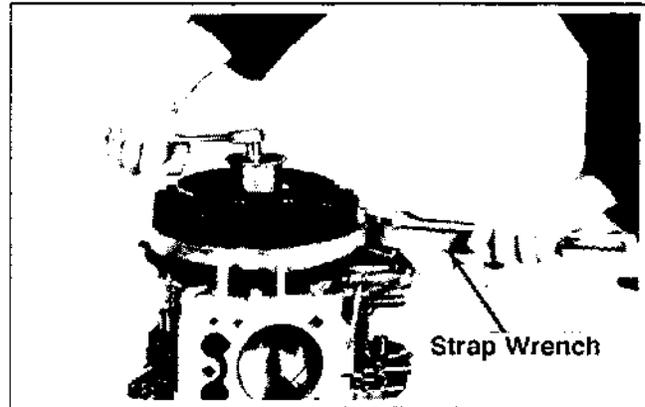

Figure 9-29. Removing Flywheel Retaining Screw And Drive Cup.
1. Remove the hex flange screw, plain washer, and drive cup. See Figure 9-29.